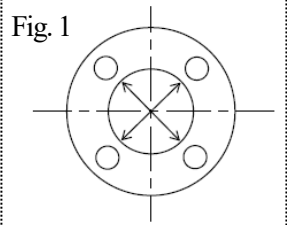

Fig. 1
- 3) Using a torque wrench, tighten the bolts and nuts gradually to the specified torque in a diagonal manner (Refer to fig.1.)